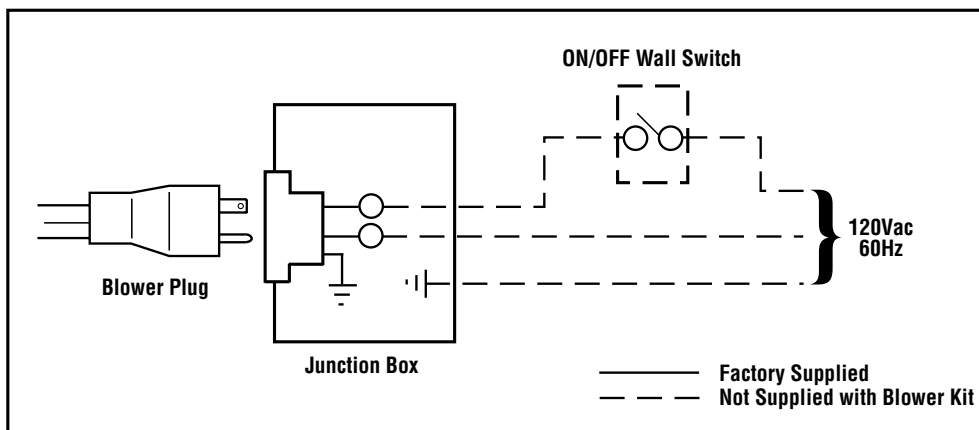

Figure 3
**Step 3.** Route the blower sleeved power cord to a switched, standard grounded three pronged outlet mounted on the appliance internal "J" box cover plate prewired at the time of appliance installation (see page 2 of this document, **Figure 3**). Ensure power cord minimizes contact with hot appliance surfaces. Operate the FAB-1100 from the switch controlling power to the appliance junction box.